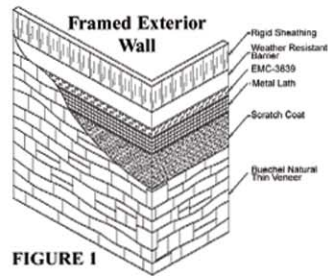

FIGURE 1
Exterior Framed Back up Wall (See Figure 1)
*EMC-3639 is a weep system that is recommended by Buechel Stone Corp. to be installed on any exterior framed back up wall (see Figure 1 & 3). Buechel Stone is one of the few quarries that provide a weep system for their thin veneer products.